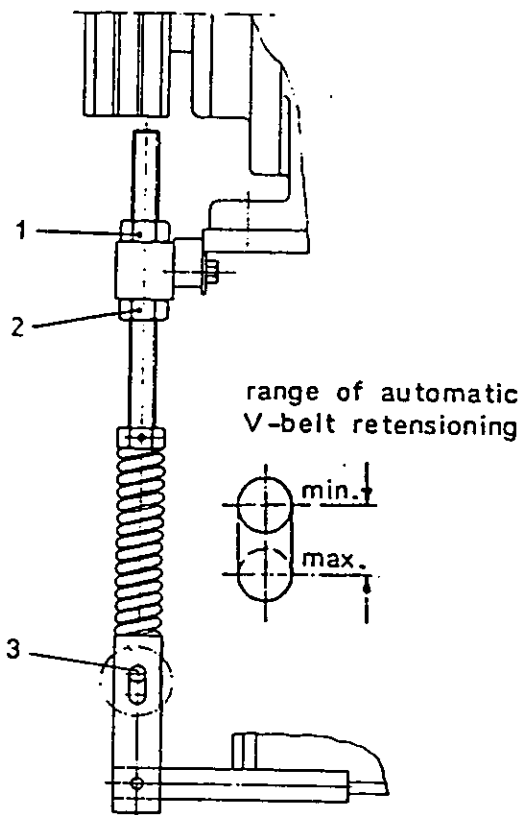

Figure 23
- Turn adjusting hex nut (2, Figure 23) at the swing support downwards.